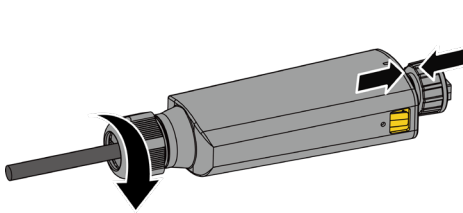

Fig. 47. Attach the seal and fasten the cable gland
4. Close the housing using the two release tabs and fasten the cable gland [\times W_16/ \blacktriangleleft 2 Nm] (see Fig. 47).